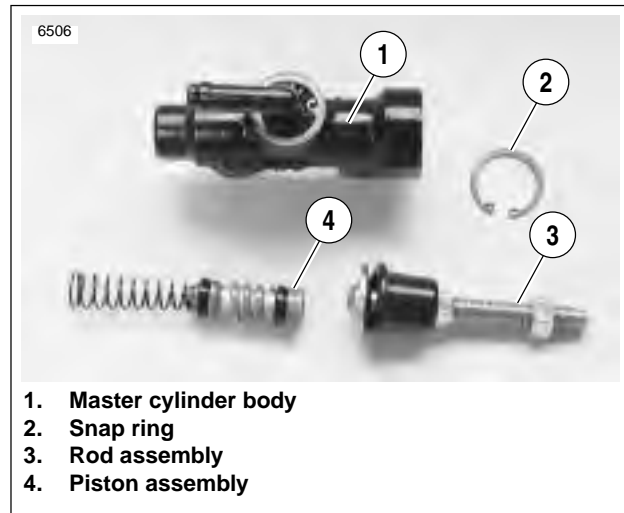

Figure 2-50. Master Cylinder Internals
1. See Figure 2-50. Insert piston assembly (4), spring first, into master cylinder.